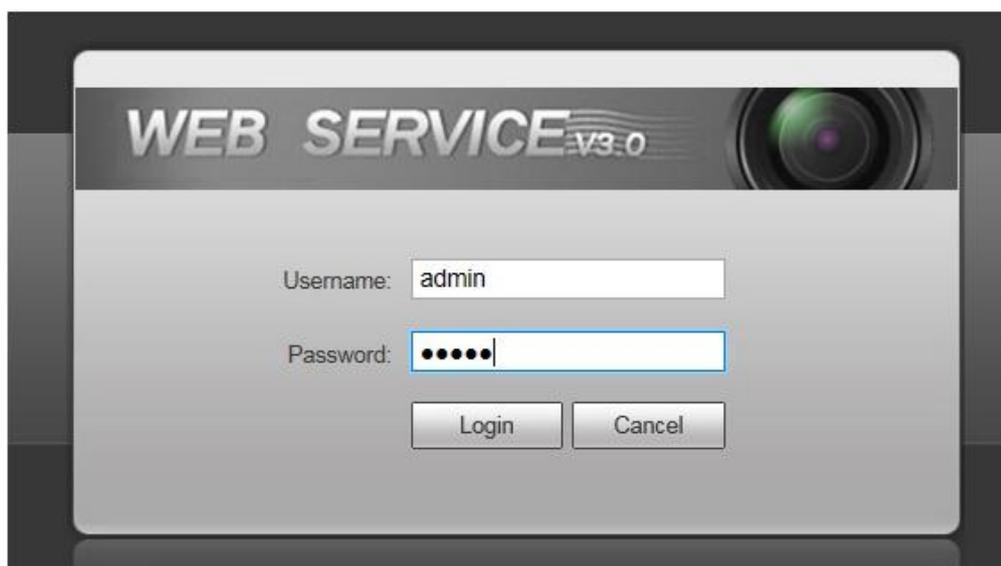

Figure 4-5
- Step 3 After it is successfully connected, you will see the interface which is shown in Figure 4-5, input user name and password, and click login button to log in the system. The factory default administrator user name and password are admin and admin respectively, please modify administrator password after login.